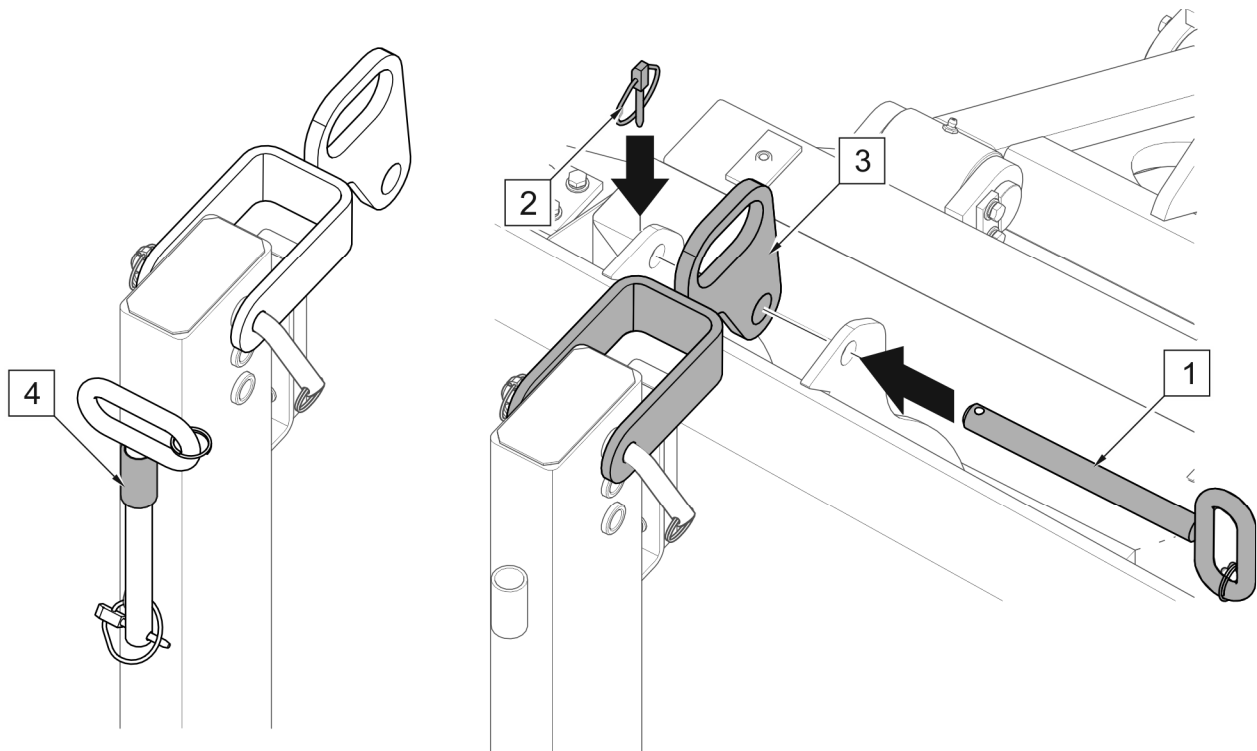
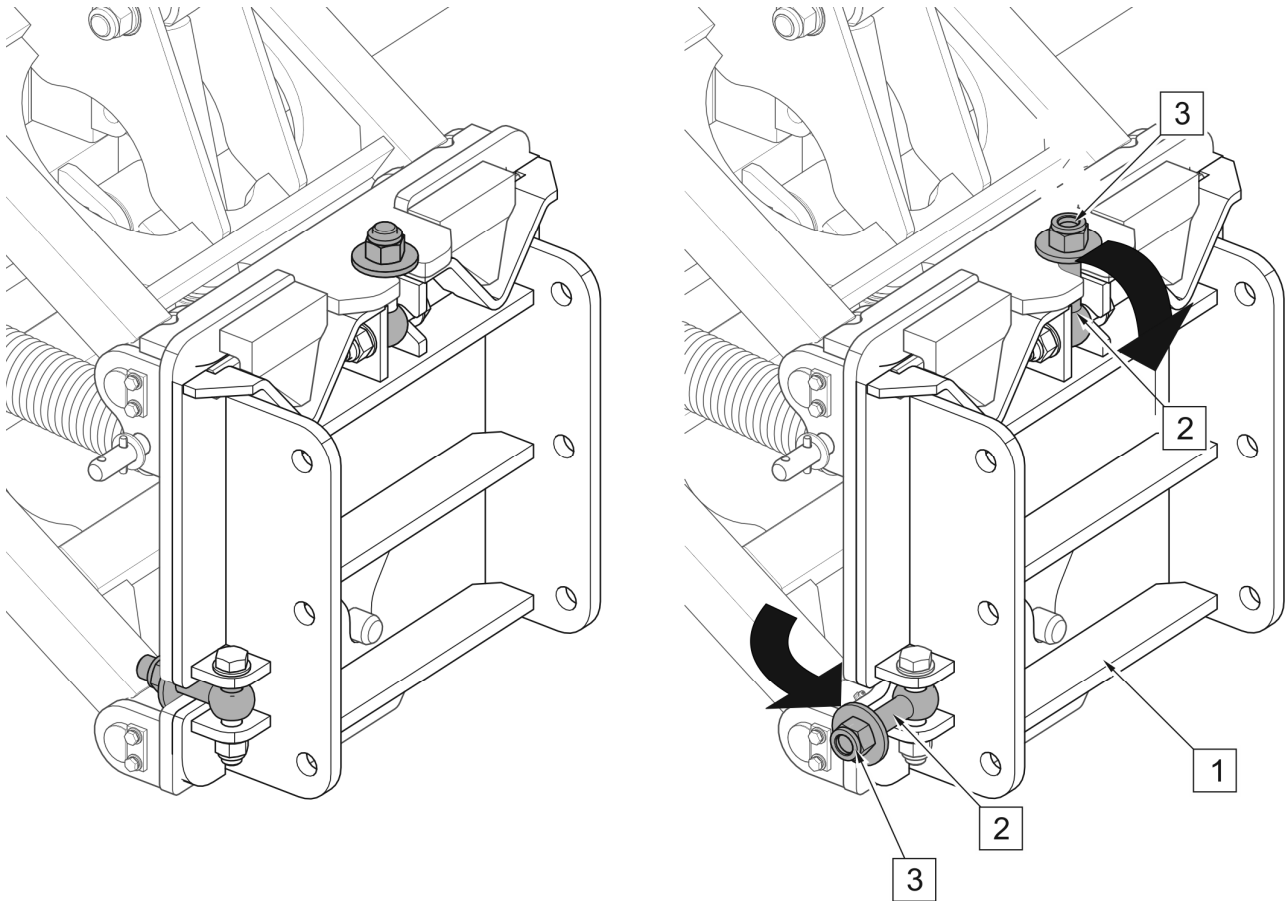

FIG. 4.18 **Connect the cart with the plough's mouldboard**
FIG. 4.19 **Dismounting the linkage plate protection**
- 2) Using the external hydraulic system of the carrier vehicle, carefully lower the snowplough until it fully rests on the cart. Connect the cart with the plough's mouldboard (FIG. 4.18). Disconnect the plough linkage plate from the carrier vehicle's connection plate (FIG. 4.19).
- 2) Using the joystick on the control panel, carefully lower the plough until the plough blade is completely resting on the cart. Connect the cart with the plough's mouldboard (FIG. 4.18). Disconnect the plough linkage plate from the carrier vehicle's connection plate (FIG. 4.19).
After lowering the plough onto the cart (FIG. 4.18), connect the plough mouldboard with the cart's hitch as follows:
In order to disconnect the plough linkage from the carrier vehicle's mounting plate (FIG. 4.19), loosen the nuts (3) and remove the eyebolts (2) (3 items) from the plough linkage plate.